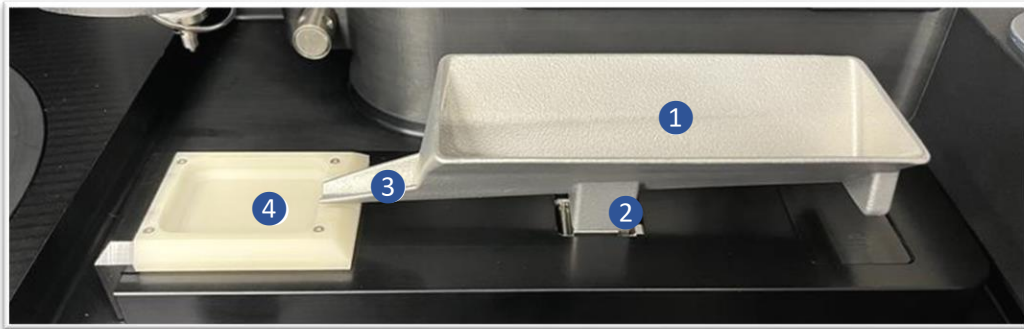
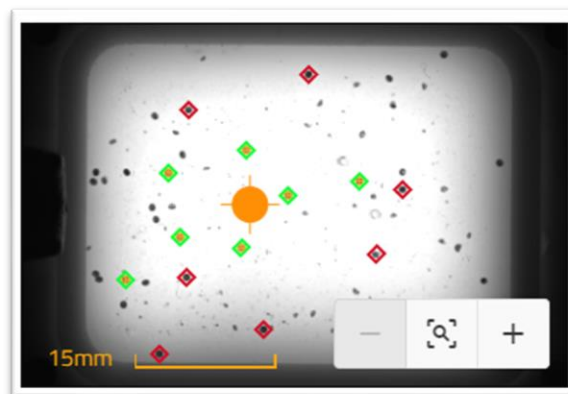

Figure 15 – Hopper
Figure 16 – Processed Image of Stones in Feeder Tray
Once stones are present in the feeder tray (see Figure 15 – (4)), a camera mounted above it together with an image processing system identifies those which are table down. These stones (shown outlined in green in Figure 16) are suitable for the robot to pick up.